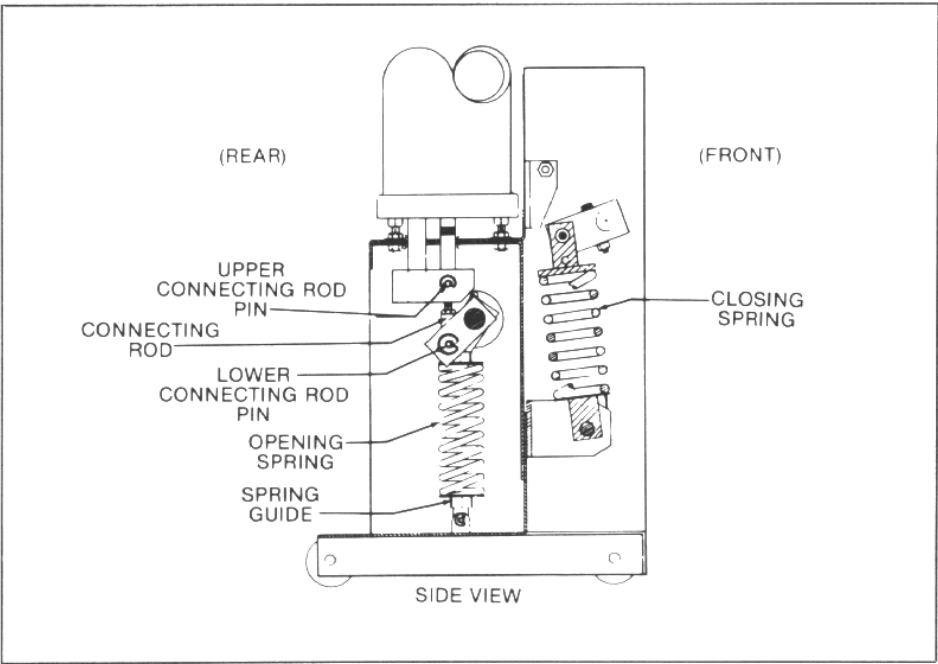

Figure 7
9. A pressure switch (PS) is located at the bottom of each interrupter (Figure 7). The switch is designed to operate when the gas pressure falls below 29.4 psig.